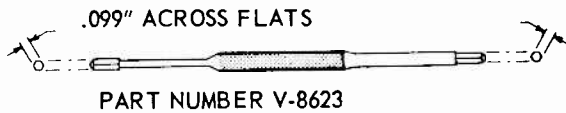

Figure 7. Alignment tool; .099" across flats.
6. **Alignment tool** – The alignment tool shown in Figure 7 should be used to adjust all slugs having a hexagonal bore.